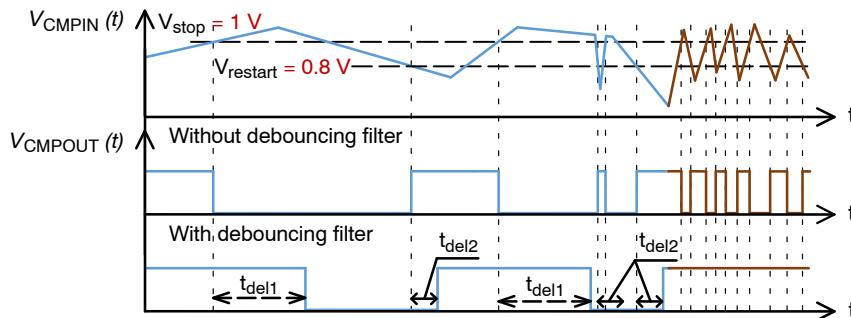

Figure 52. Over-temperature/Over-current Detection with/without De-bouncing Filter
Over-temperature detection is based on pull-down PTC thermistor connected to CMPIN pin. Internal current source force the current value $I_{ref1} = 120 \mu\text{A}$ through the PTC. If the over-temperature condition appears, the resistance of the PTC thermistor increases, i.e. the sensed voltage reaches the value $V_{stop} = 1 \text{ V}$ and the comparator turned-on the internal MOSFET, which force the CMPOUT pin to the Low state. The de-bouncing time constants $t_{del1} = 50 \mu\text{s}$ and $t_{del2} = 10 \mu\text{s}$ on comparator output can be implemented as an option. The CMPOUT pin goes back to High Z state, when the sensed voltage on PTC decreases below the value $V_{restart} = 0.8 \text{ V}$. Figure 52 shows the comparator operation with/without de-bouncing filter based on input voltage on CMPIN pin.